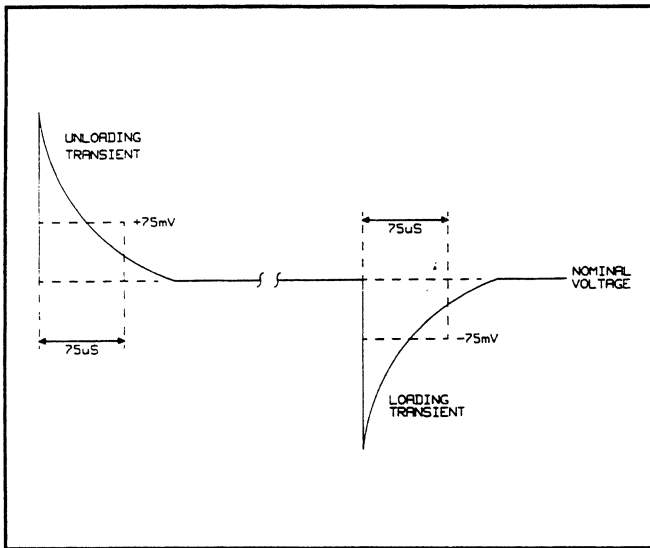

Figure 3-5. Transient Response Waveform
- h. Adjust the oscilloscope trigger level for a stationary waveform as shown in Figure 3-5 and check that the loading transient is within 75 mV of its final value in less than 75 µs.
- i. Change the oscilloscope settings to + slope and repeat steps g and h for the unloading transient (see Figure 3-5).